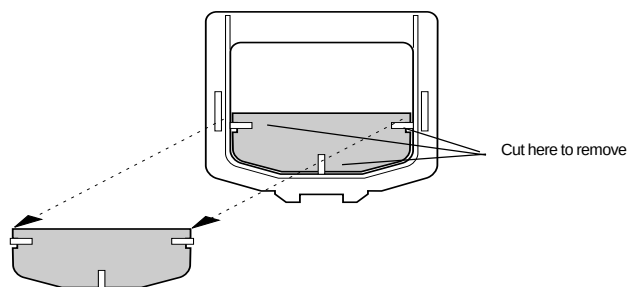

Figure 3
- An undercrawl mask is molded into the window allowing objects to be placed within 5 feet of, or directly below the detector. This mask can be removed cutting the three plastic tabs holding it in place as shown in Figure 3.